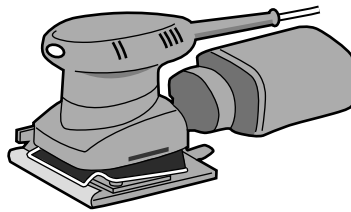

Fig. 5
- 9 Fig. 5 shows a palm sander to be used on wood.